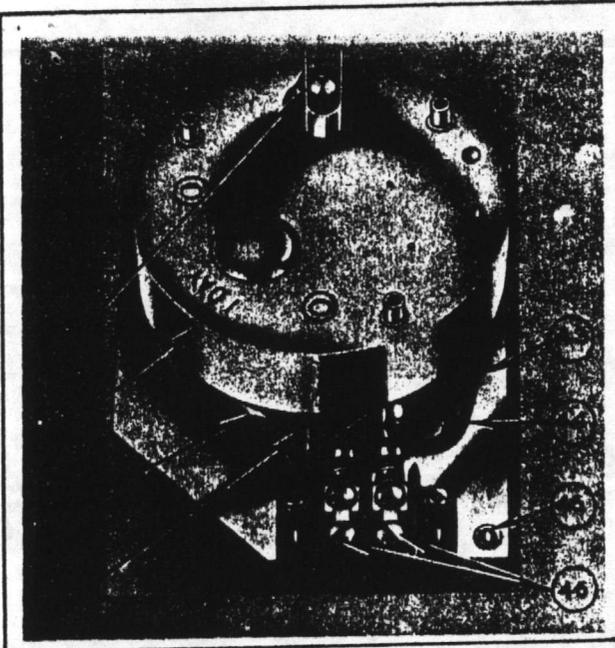

FIGURE 9. ELECTRIC CHART DRIVE COMPLETE
1. Complete drive as in Figure 9.